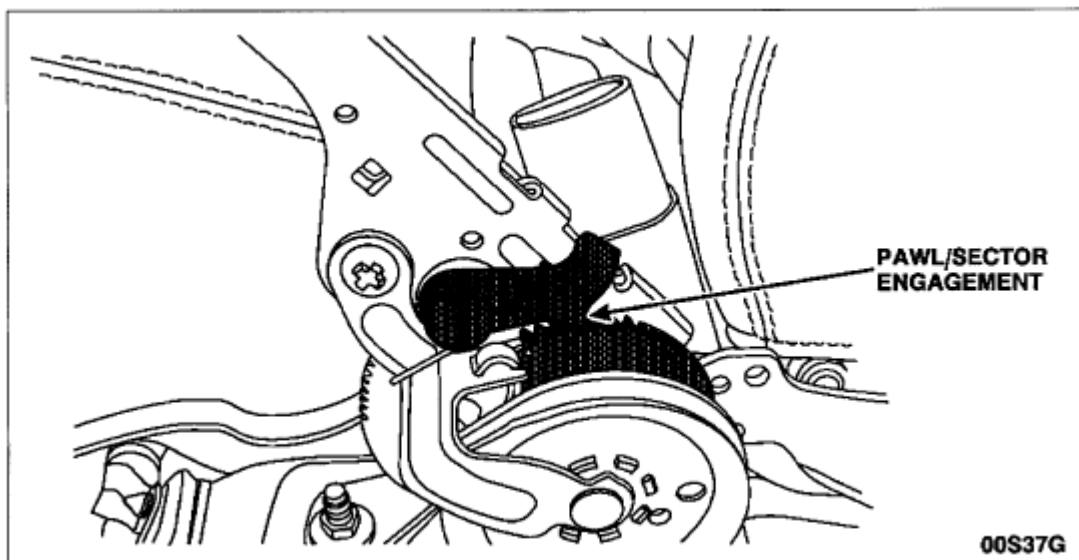

FIGURE 7
5. Apply and release the parking brake control four (4) times, ending with the lever pulled up to its maximum apply position. Make sure the self-adjust pawl tooth fully engages the sector gear (the pawl tooth must not be "perched" between two teeth of the gear). See Figure 7.